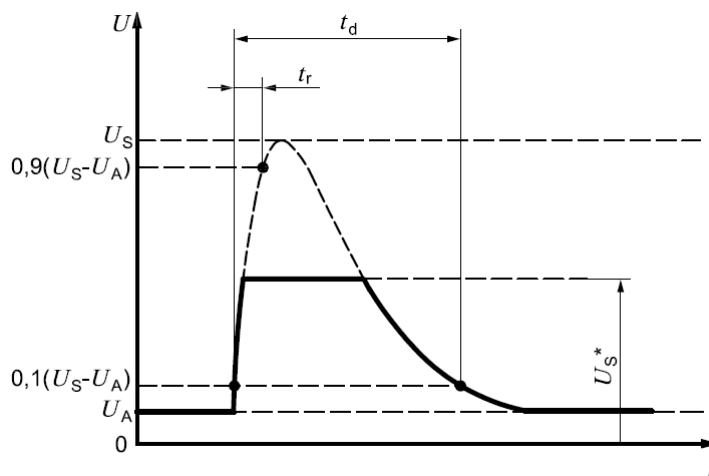

图 45. Voltage Profile to Test a Load Dump Event With Centralized Load Dump Suppression
- To emulate a load dump event for an alternator with centralized load dump suppression, voltage profile described in 图 45 is used. U_A and U_S^* are applied directly to V_{BAT} .